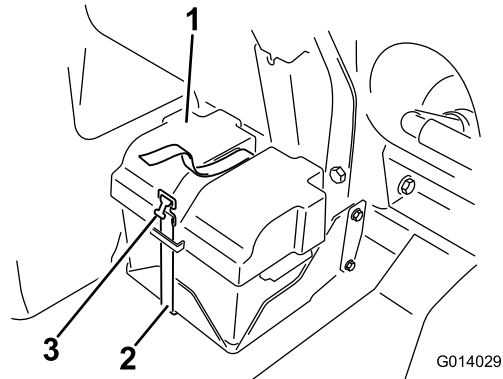

Figure 85
2. Remove the battery cover and disconnect the negative (black) ground cable from the battery post (Figure 85).
4. Install the battery cover and secure it with the strap that you removed previously (Figure 85).